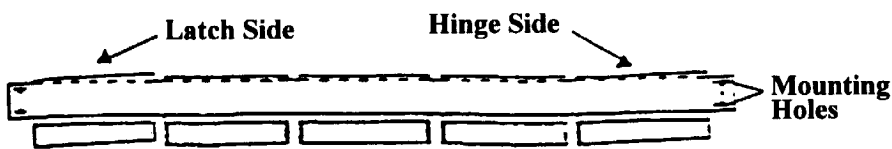

Figure 6
8. Locate the center tie bar from the kit. (See figures 6 and 7, pg. 9.)